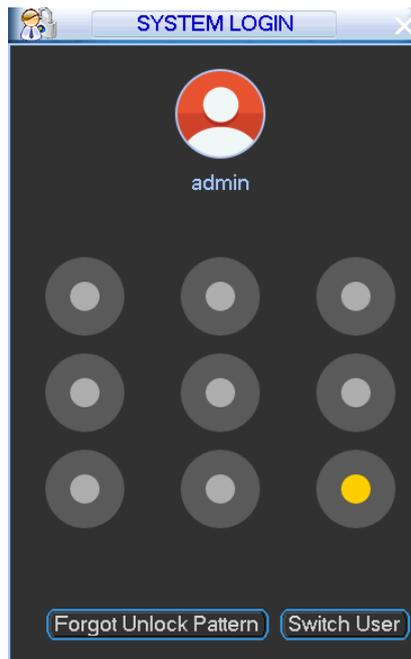
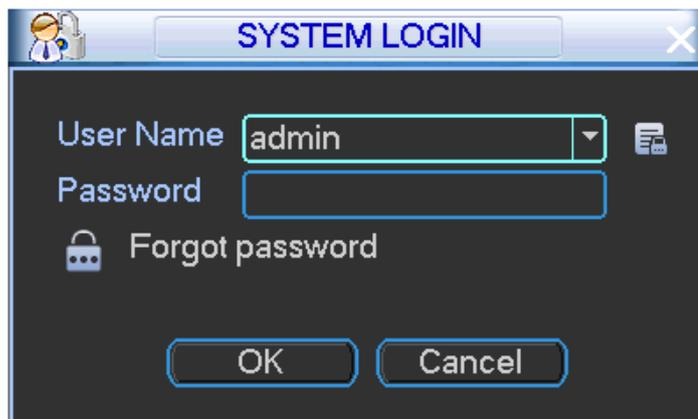

Figure 5-6
Figure 5-7
Step 2 Figure 5-6 or Figure 5-7.
- Figure 5-6. Click “Forgot unlock pattern”, device goes to Figure 5-7.
- If you have not set unlock pattern, device displays password interface. See Figure 5-7.